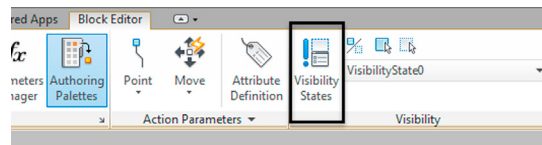
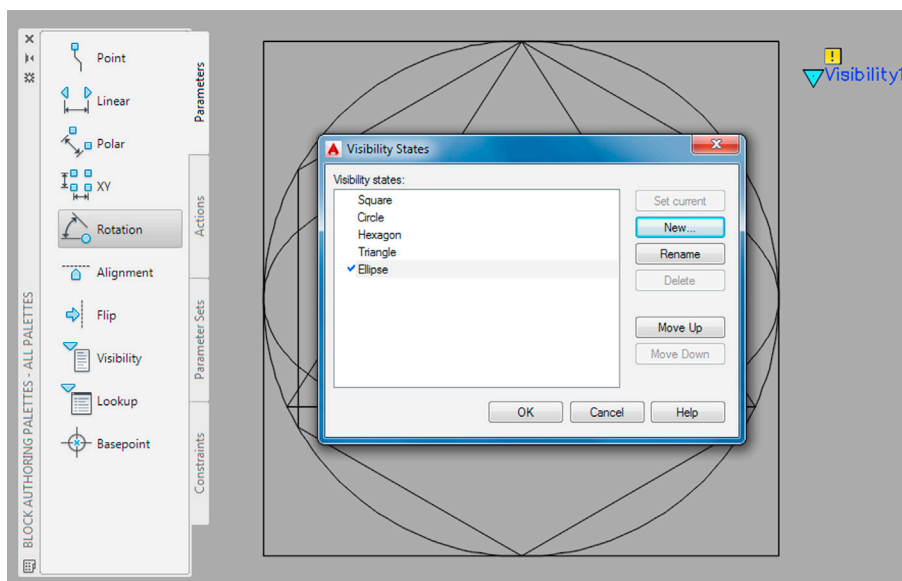
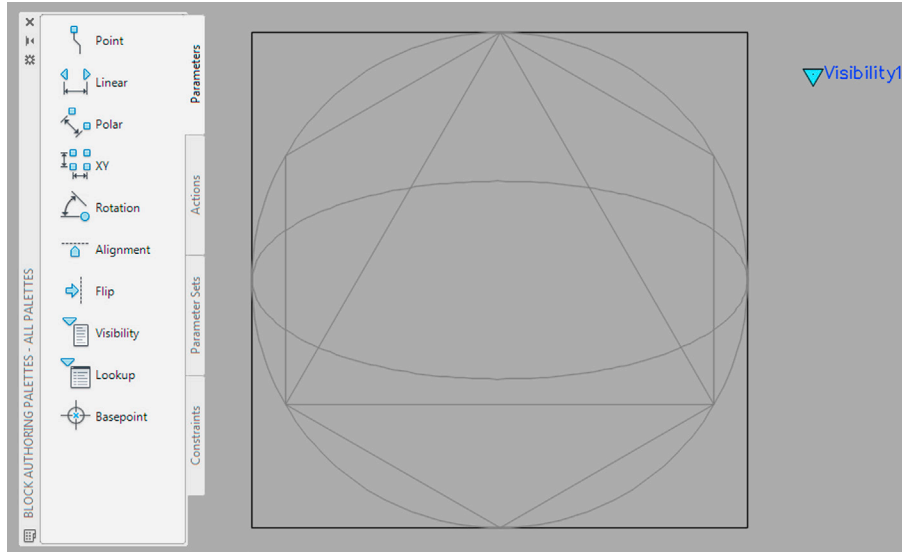

FIGURE 7.22 Visibility States button.
FIGURE 7.23 Visibility States completed.
FIGURE 7.24 Square visibility state.
Step 4. Select the Visibility States button in the Ribbon's Block Editor tab, Visibility panel (Fig. 7.22). The Visibility States dialog box appears. Rename the existing state to Square and add the other four via the New... button (leaving any options as default in the dialog box). The result is seen in Fig. 7.23. Press OK.
Step 5. You now need to actually set the invisibility parameter of each visibility state. Go up to the Ribbon and find the drop-down menu just to the right of the Visibility States button (it can be seen in Fig. 7.22). Drop it down and double-click on the *Square* state. It is now the current visibility state, and it is here that you need to make all the other shapes invisible. To do that, press the button just above the drop-down menu called *Make Invisible* (it looks like a faded square with an arrow and can also be seen in Fig. 7.22). AutoCAD says *Select objects to hide*::. Go ahead and pick *all* of the shapes *except* for the square. The selected shapes all fade to a gray color, as seen in Fig. 7.24.